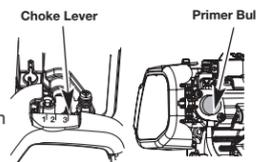

Fig. 8
3. Fully press and release the primer bulb 10 times, slowly. Some amount of fuel should be visible in the primer bulb and fuel lines (Fig. 8). If fuel can not be seen in the bulb, press and release the bulb until fuel is visible.
4. Place the choke lever in **Position 1** (Fig. 8).
6. Place the choke lever in **Position 2** (Fig. 8)
9. Continue squeezing the throttle control, move the choke lever to **Position 3** (Fig. 8) and continue warming the engine for an additional 60 seconds. The unit may be used during this time.
IF... the engine hesitates, return the choke lever to **Position 2** (Fig. 8) and continue warm-up.
3. Fully press and release the primer bulb 10 times, slowly. Some amount of fuel should be visible in the primer bulb (Fig. 8). If fuel cannot be seen in the bulb, press and release the bulb until fuel is visible.
4. Move the choke lever to **Position 1** (Fig. 8).
6. Squeeze the throttle control lever. Press and hold the electric starter or drill ON (I) button for 2 seconds.
7. Move the choke lever to **Position 2** (Fig. 8).
8. Squeeze the throttle control lever, press and hold the electric starter or drill ON (I) button for 2-second intervals until the unit starts.
10. Continue squeezing the throttle control, move the choke lever to **Position 3** (Fig. 8) and run the unit for an additional 60 seconds. The unit may be used during this time.